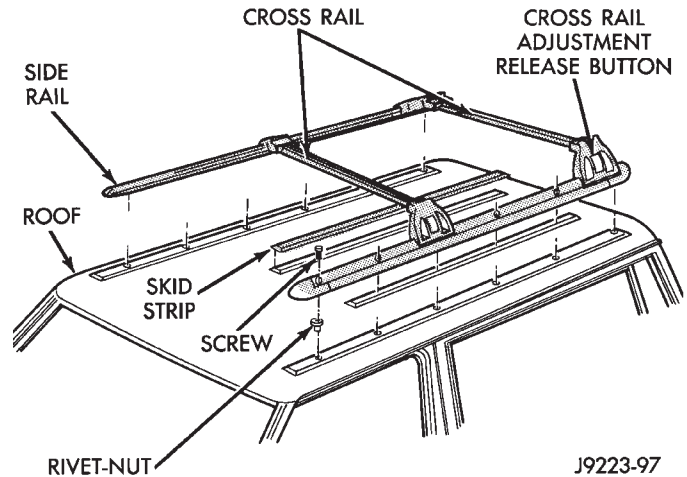

Fig. 64 Luggage Rack
- (1) Remove slide rail screws (Fig. 64).
- (2) Remove luggage rack from roof.